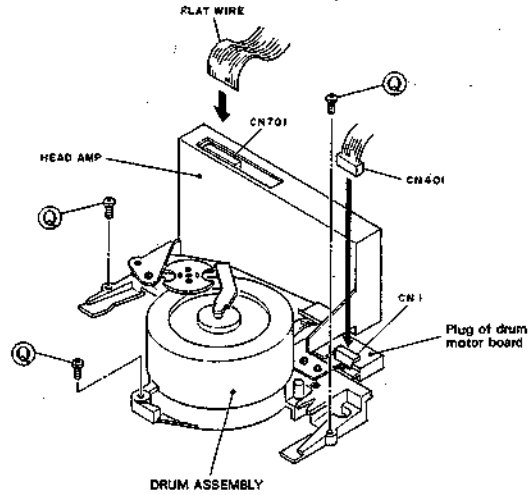

Fig. 1-1-16
1. Take out 3 screws ③ and disengage the connector from the drum assembly, as shown in Fig. 1-1-16.